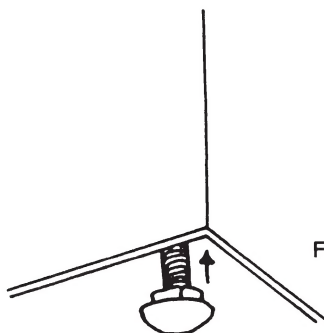

FIGURE 3
3. Measure the drop between the fireplace floor and the fireplace hearth. If a drop exists thread the 3/8" x 2" bolts into the bottom rear of the Flushmount firebox, adjust the bolts to compensate for the drop. This procedure insures that the Flushmount is installed in a level position. If the fireplace floor and hearth are level, no levelling is required. (See Figure 3)
4B. Measure the cast damper frame located in the throat of the fireplace. (See Figure 3 a)